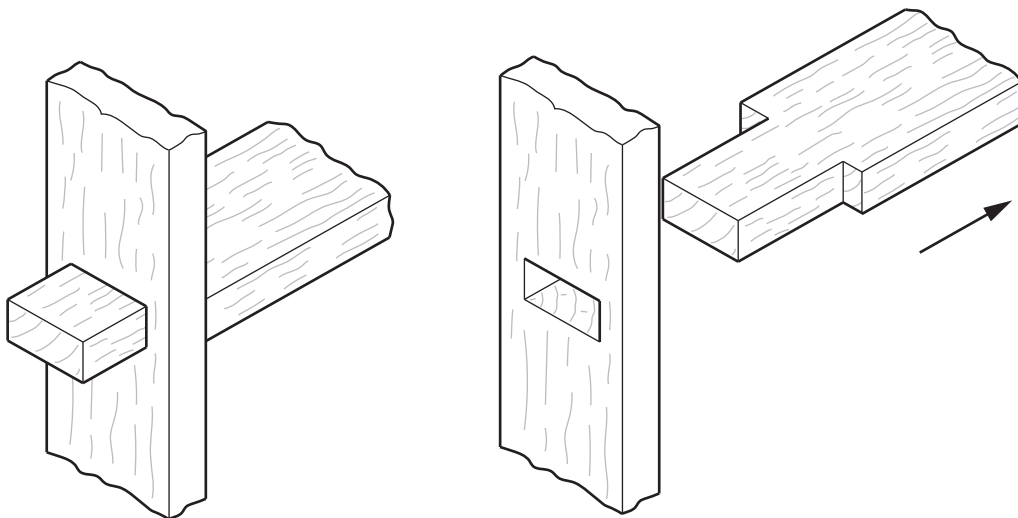

Fig. 3.1
- 3 Fig. 3.1 shows a through mortise and tenon joint.
Add sketches and notes to Fig. 3.1 to show how the joint could be prevented from being pulled apart in the direction of the arrow shown. [3]